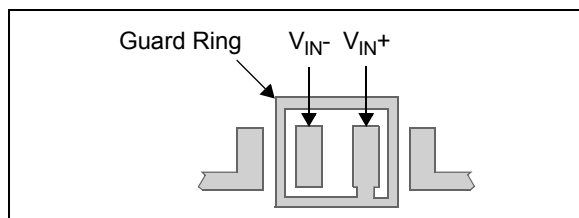

FIGURE 4-12: Example Guard Ring Layout.
The easiest way to reduce surface leakage is to use a guard ring around sensitive pins (or traces). The guard ring is biased at the same voltage as the sensitive pin. Figure 4-12 shows an example of this type of layout.
2. Inverting (Figure 4-12) and Transimpedance Gain Amplifiers (convert current to voltage, such as photo detectors).